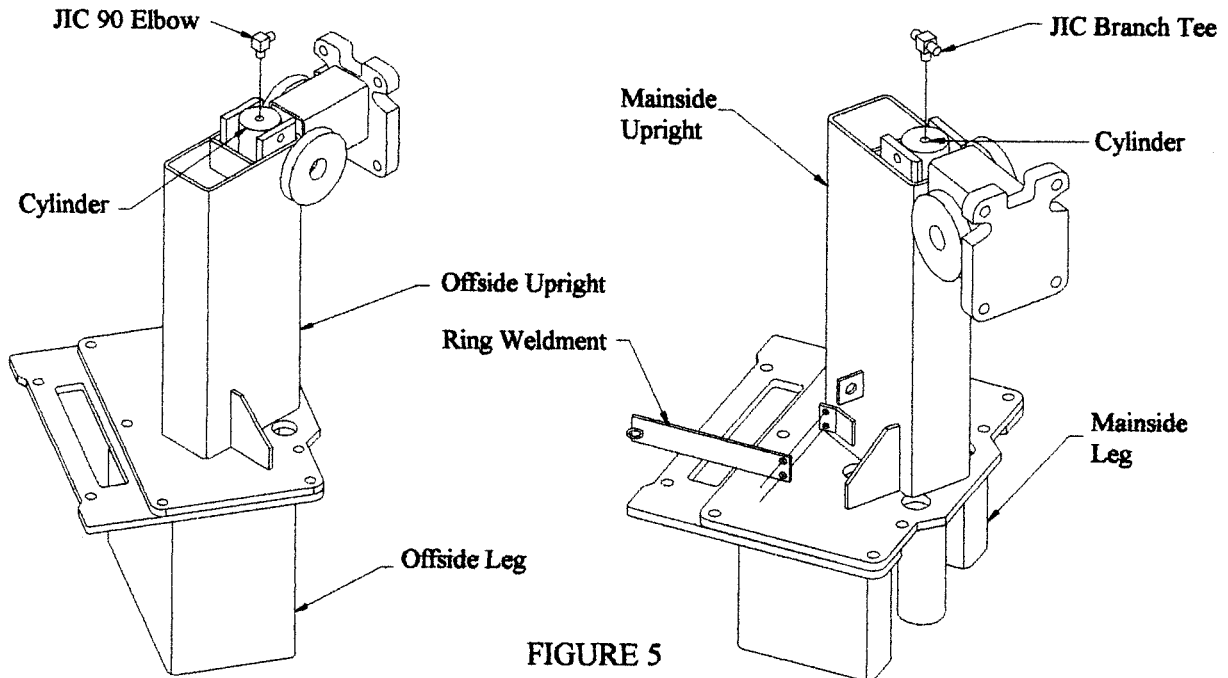
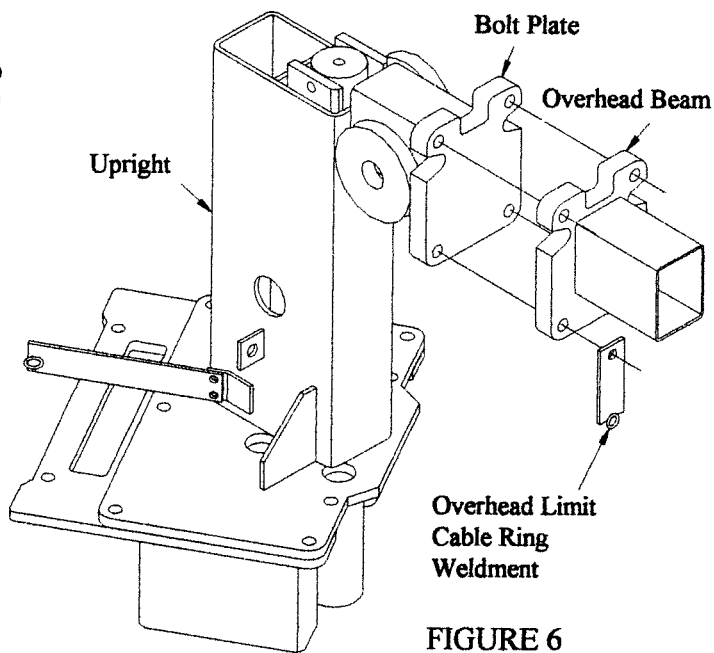

FIGURE 5
FIGURE 6
7. To one cylinder, attach a male pipe thread to male JIC branch tee to the top opening. See Figure 5 on the following page. The openings should be perpendicular to the mounting holes in the cylinder end. This is the *mainside* cylinder. Attach a male pipe thread to male JIC 90 elbow to the top opening of the other cylinder. The opening should be perpendicular to the mounting holes in the cylinder end and face away from the nipple at the rod end. This is the *offside* cylinder.
13. Raise the overhead beam and attach it to the bolt plate on the uprights using 1/2" x 2-1/2" grade 5 bolts. Attach the Ring Weldment to the mainside upright using 5/16" x 1" NC bolts and nylon insert nuts as shown in Figure 5 on the previous page. Also attach the overhead limit cable ring weldments to the beam as shown in Figure 6.